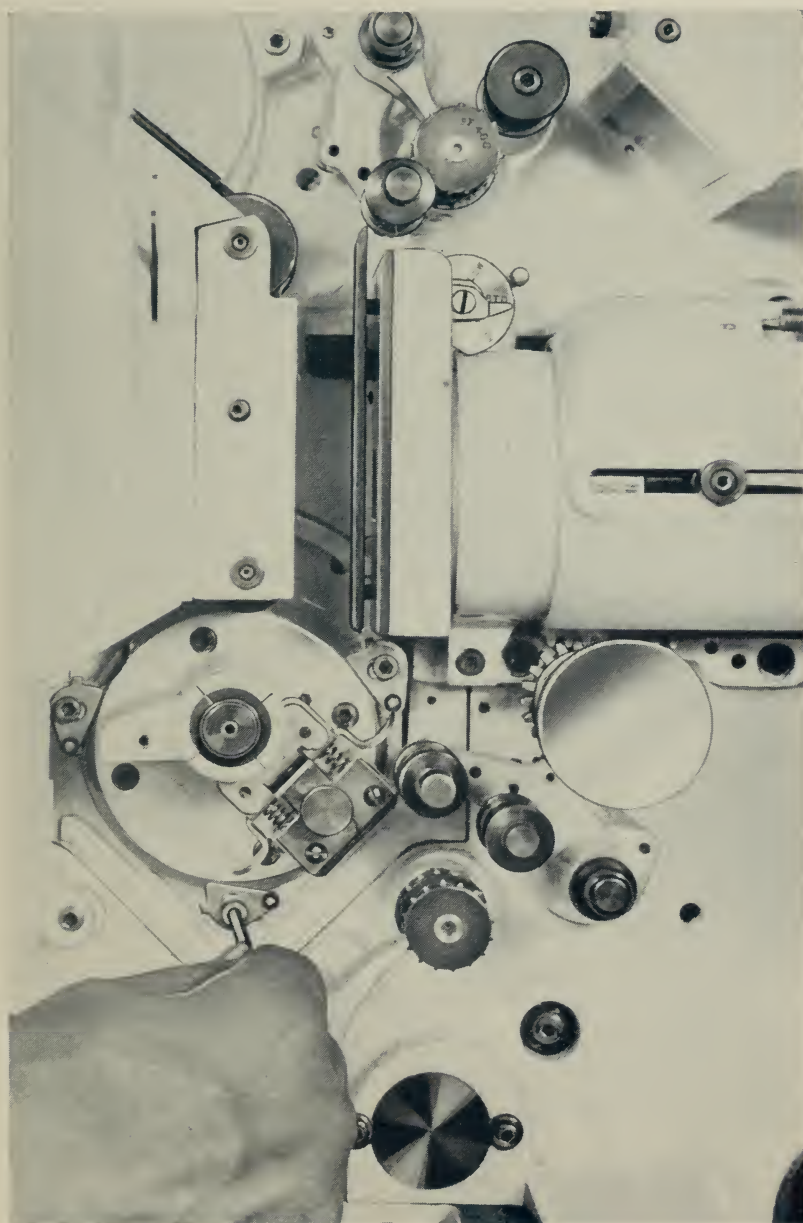

Fig. 6. Unlocking the intermittent movement
5. Release (do not remove) the Allen screws on the three clamps that hold the movement in proper position, and push the clamps away from the movement. (Clamps are located on operating side of the mechanism. See Fig. 6.)